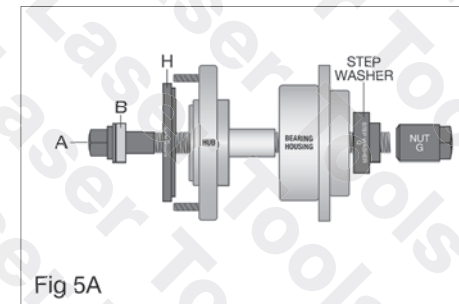

Fig 5A
1. Refer to **Figure 5A**: Select the smallest step washer that best fits and will apply force to the inner bearing race.